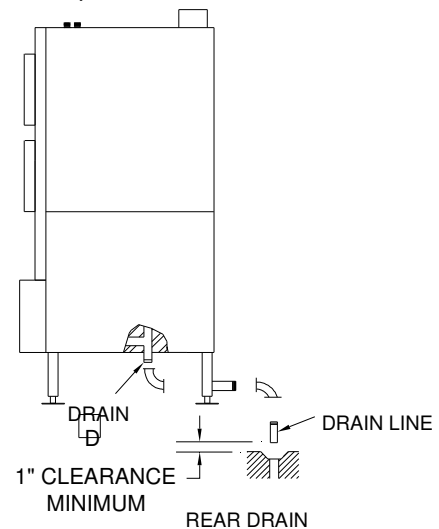

Figure 2-7
Furnishing and installing the drain line is the responsibility of the owner and/or installer. Figure 2-7 illustrates a drain layout recommended by Cleveland Range.
- The steamer is supplied with a 2 in tube connection at the bottom of the unit and a no-hub connector, included (Figure 2-7).